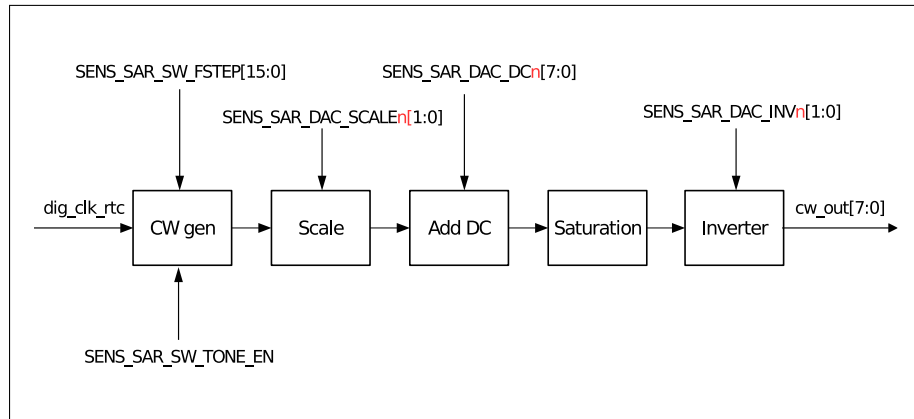

Figure 111: Cosine Waveform (CW) Generator
The cosine waveform (CW) generator can be used to generate a cosine / sine tone. A diagram showing cosine waveform generator's function is presented in Figure 111.